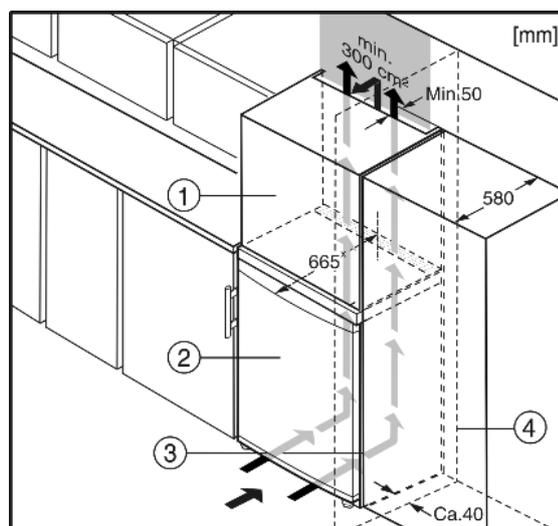

Fig. 5
- (1) Stack cabinet
- (2) Appliance
- (3) Kitchen cabinet
- (4) Wall
The appliance can be inserted into a row of kitchen units. To match the appliance Fig. 5 (2) to the height of the row of units, a suitable stack cabinet Fig. 5 (1) can be fitted above the appliance.
When building in with kitchen units (max. depth 580 mm) the appliance can be positioned directly next to the refrigerator Fig. 5 (3). The appliance projects out from the kitchen unit front by 70 mm * at the side and by 85 mm * at the centre.
If the appliance is installed with the hinges next to a wall *Fig. 5 (4)*, the distance between appliance and wall has to be at least 40 mm. This corresponds to the projection of the handle when the door is open.